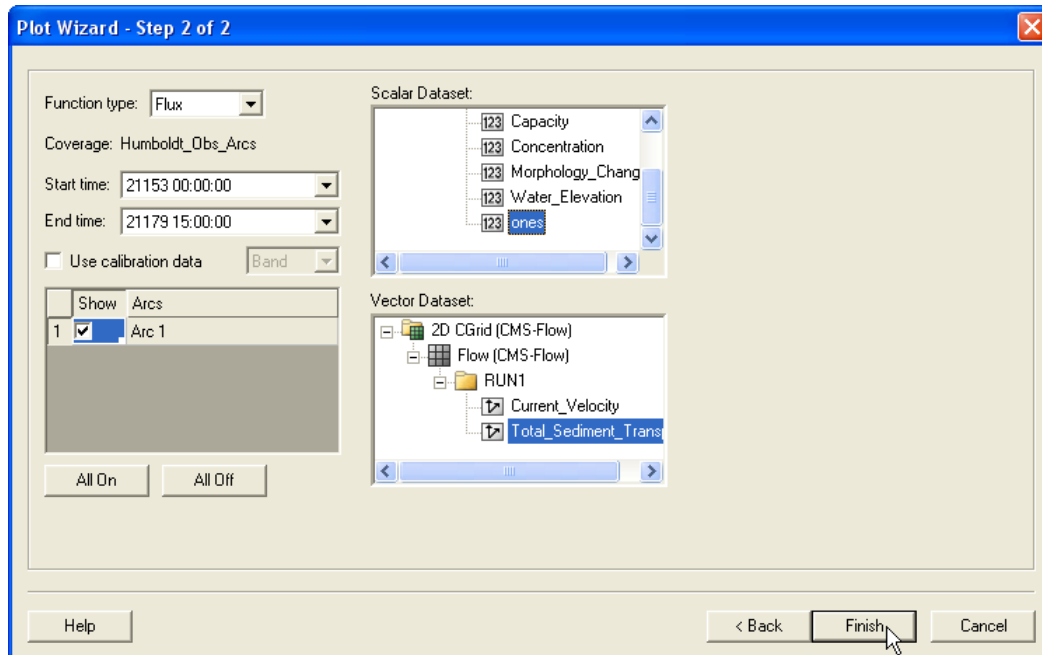

Figure 8.3.5. Selecting the correct Start and End Times, Feature Arcs, and Scalar and Vector Datasets in Step 2 of 2 of the Plot Wizard.
10. Check the feature arc checkbox (Figure 8.3.5), select the *ones* dataset for the scalar dataset, and *sediment transport* as the vector dataset, adjust to the correct start and end times, and select *Finish*. (Note that the computation might take a few minutes to tens of minutes, depending on the size of the dataset. This is because SMS must split the vector information, which is computationally slow.)